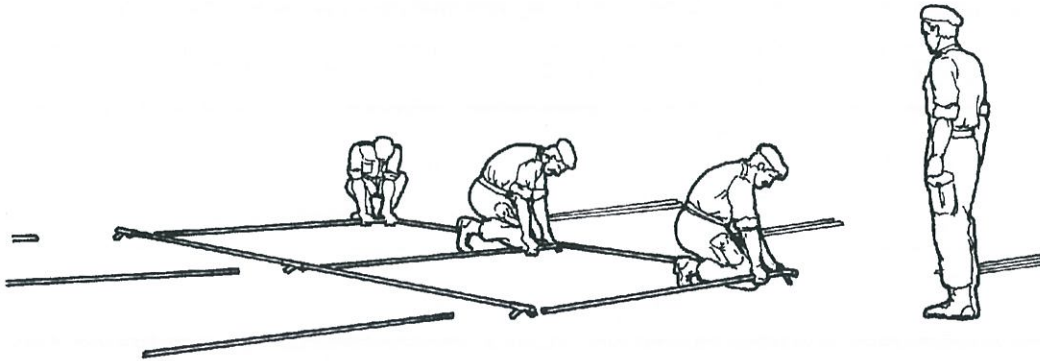

Fig 5-10 — Assembly of Roof Frame (Side One)
- a. Approximately 2 134 mm out from and parallel to the ridgeline assemble the eave line, using the same components and procedure as for the ridgeline. Also fit longer lateral support tent tubes to the ridgeline (Fig 5-10).
- a. Repeat the procedure as detailed in para 23.a. and b. on the side of the ridgeline as shown in Fig 5-10, 5-11 and 5-12.